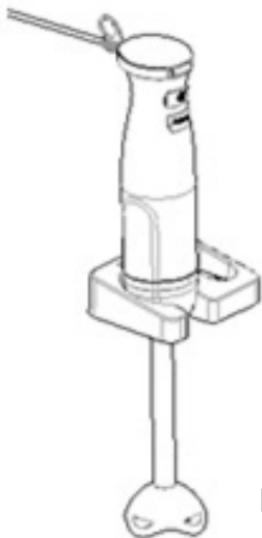

Fig. 4
6. Reassemble the blender shaft and the motor compartment and place them in upright position in the wall mount (see Fig. 4) or hang them up to save space.